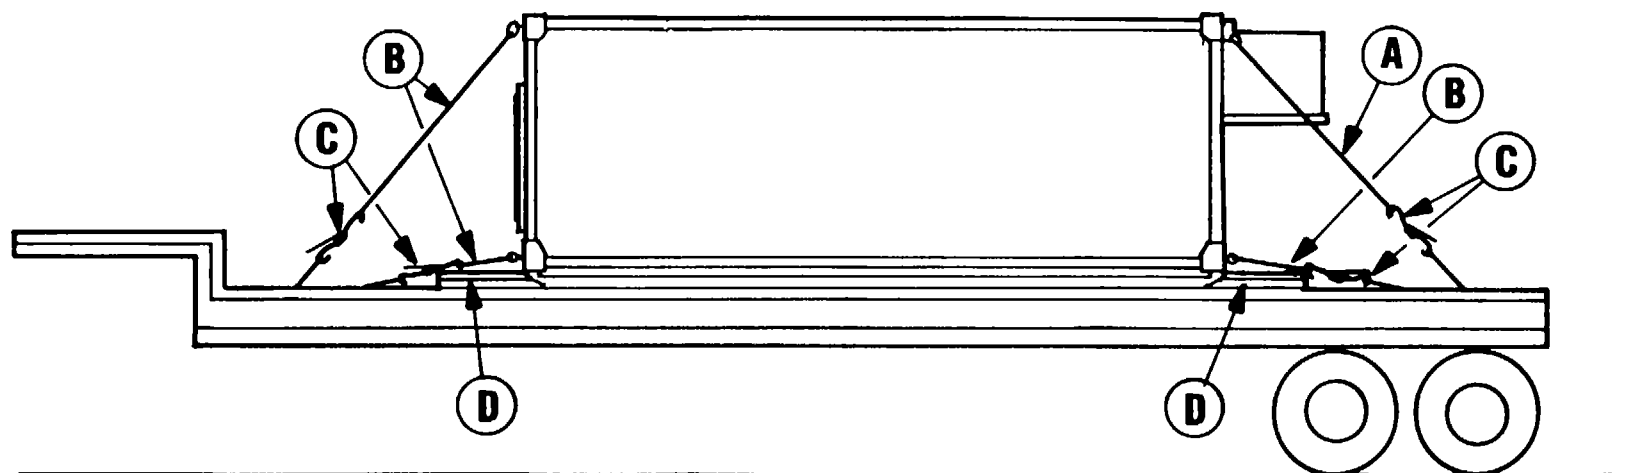
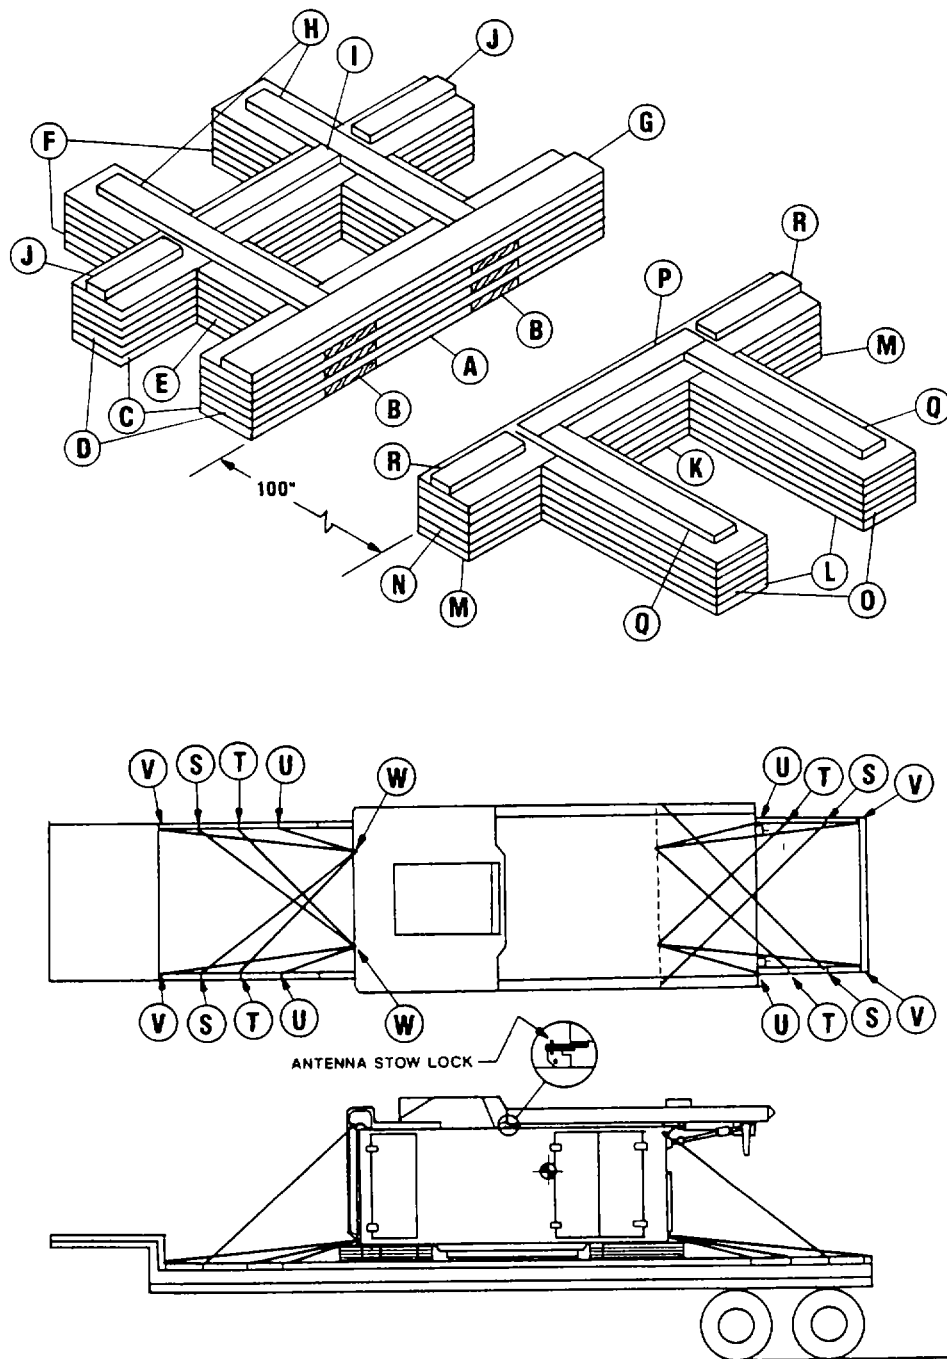

Figure 5-9. Blocking and tiedown of the PATRIOT shelter-mounted ECS, ICC, MC (Con), or CRG on an M269A1 or M270A1
Figure 5-10. Blocking and tiedown of the RS on an M269A1 or M270A1 semitrailer.
e. **PATRIOT Shelter-Mounted Components.** PATRIOT shelter-mounted components may be transported on a number of commercial and military semitrailers of adequate length and weight capacity, such as the M269A1 or M270A1-series semitrailers. Semitrailer load bed heights may vary from as high as 60 inches to as low as 26 inches and restrictions may vary according to the semitrailer used. For example, when the RS is loaded on the M127 semitrailer, the overall height will be 161 inches, within the unrestricted CONUS legal height of 162 inches. The width of the loaded RS is 113 inches, and will require width permits for all moves. Typical semitrailer loading of PATRIOT shelter-mounted items, except the RS, is shown in figure 5-9. Bill and application of materials for blocking and tiedown are shown in tables 5-9 and 5-10, respectively. The RS with shoring assemblies detailed and loaded on a typical semitrailer is shown in figure 5-10. Stow lock antenna as shown in the figure. Bill and application of materials for blocking and tiedown are shown in tables 5-11 and 5-12, respectively. Shelters and the RS are lifted to their tiedown position as described in paragraph 6-4b(3).
Table 5-9. Bill of Materials for Blocking and Tiedown of the PATRIOT Shelter-Mounted Items, Except RS, on Semitrailers (Fig 5-9)
Table 5-9. Bill of Materials for Blocking and Tiedown of the PATRIOT Shelter-Mounted Items, Except RS, on Semitrailers (Fig 5-9)-Continued
Table 5-10. Application of Materials for Blocking and Tiedown of PATRIOT Shelter-Mounted Items, Except RS, on Semitrailers (Fig 5-9)
Table 5-11. Bill of Materials for Blocking and Tiedown of the PATRIOT RS on Semitrailers (Fig 5-10)
Table 5-12. Application of Materials for Blocking and Tiedown of the PATRIOT RS on Semitrailers (Fig 5-10)-Continued
Table 5-12. Application of Materials for Blocking and Tiedown of the PATRIOT RS on Semitrailers (Fig 5-10)